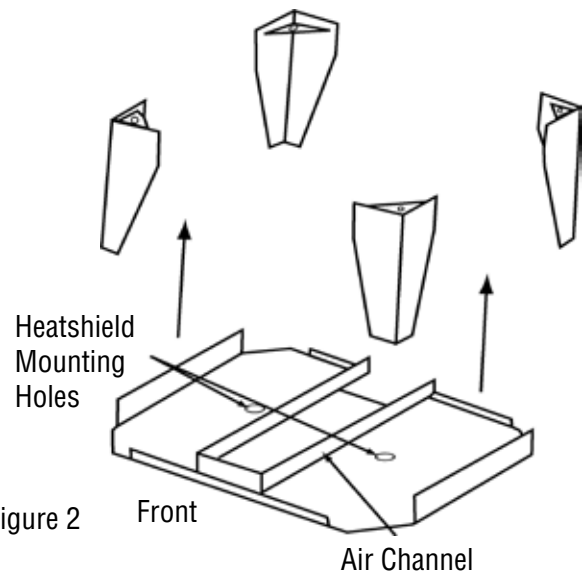

Figure 2
4. Use the two bolts and washers provided with the heatshield kit to mount the heatshield as shown in Figure 2 below.